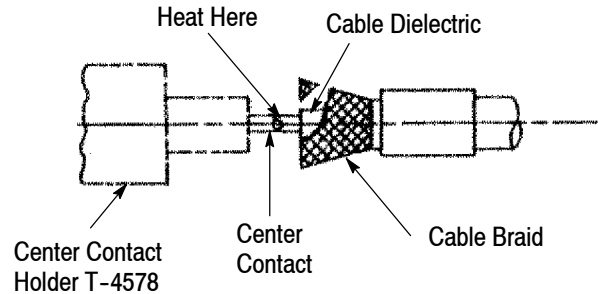

Figure 4
2.2. Soldering the Center Contact to the Cable Inner Conductor (Figure 4)